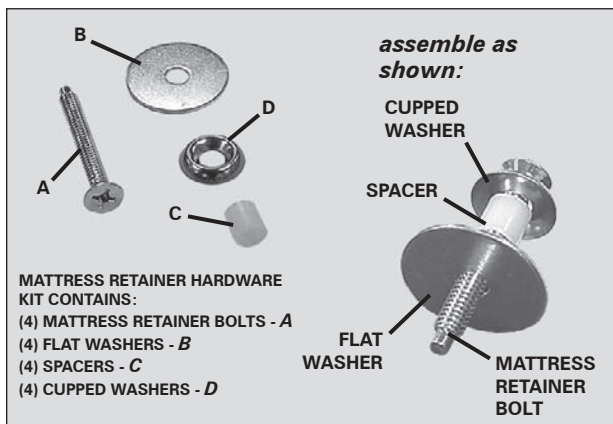

FIGURE 4: Standard mattress retainer hardware.
a. Install (1) cupped washer, (1) spacer and (1) flat washer on (4) mattress retainer bolts (**FIGURE 4**).